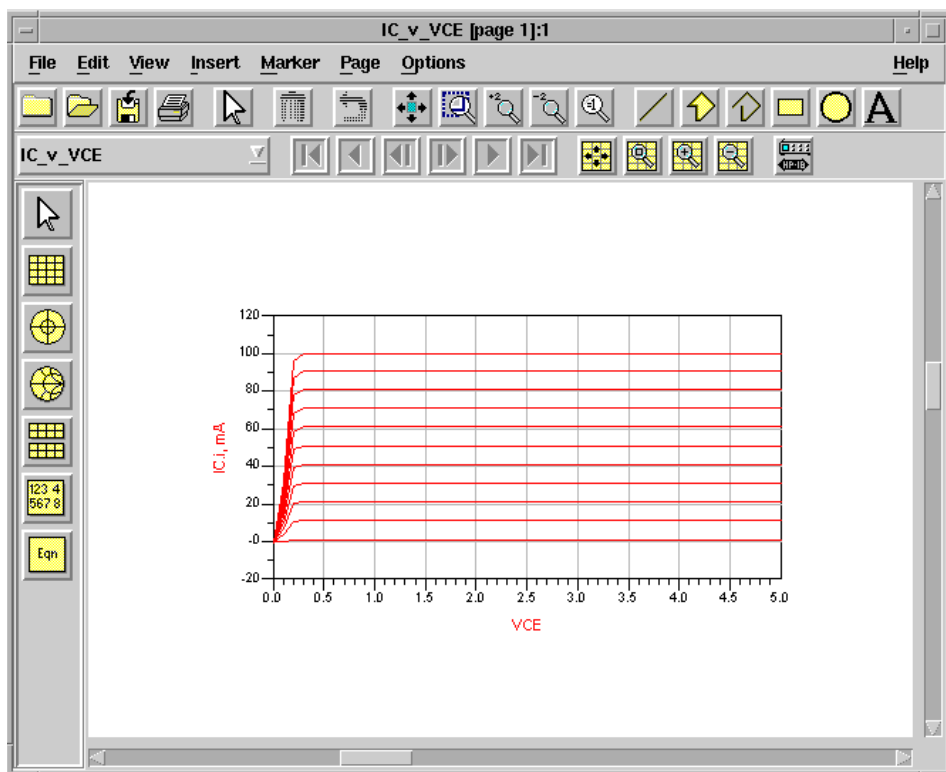

Figure 3-6. IC.i vs. VCE Simulation Results
6. Simulate the circuit and plot IC.i vs. VCE. Your plot should look like the plot shown in Figure 3-6.